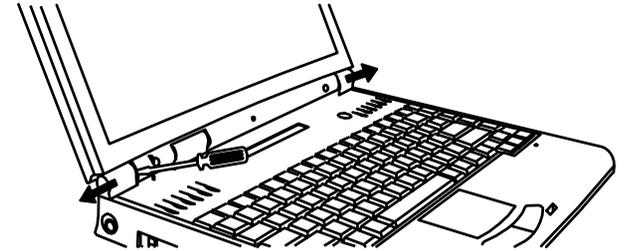

Figure 7-21. Removing the Hinge Covers
4. REPLACE THE TWO HINGE COVERS. (ref fig 7-21)